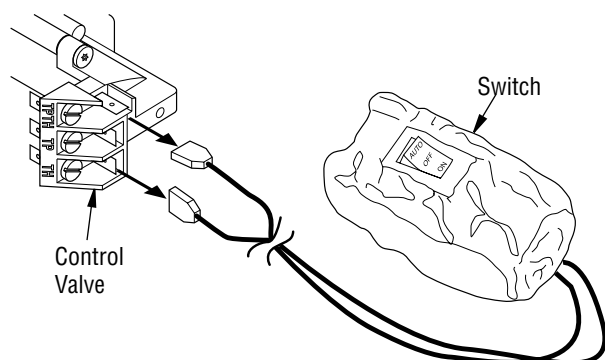

Figure 17- Disconnecting Switch from Control Valve
6. If installed, disconnect AUTO/OFF/ON switch wire from control valve at TPTH and TH locations (see **Figure 17, Page 12**).
7. Connect wires from hardware pack (with remote receiver bracket) to control valve at the TPTH and TH locations as shown in **Figure 17**. Connect other ends of these wires to remote receiver wires.